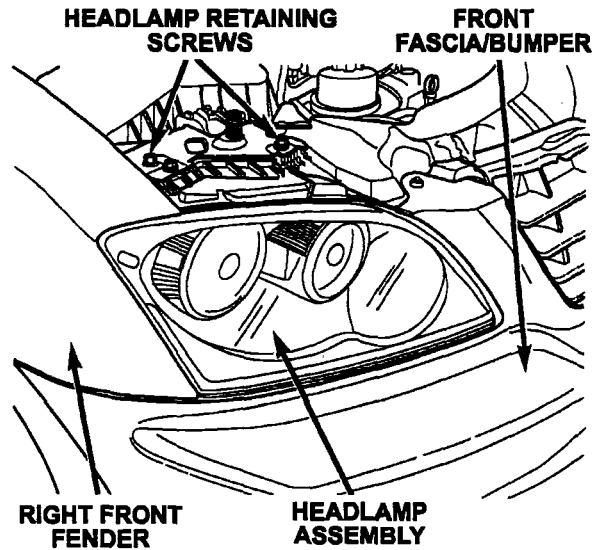

Figure 1 – Right Side Shown
2. Remove the two headlamp retaining screws from the top of the right and left side of the headlamp panel (Figure 1).
21. Install the headlamp assembly retaining screws and tighten to 50 in. lbs. (6 N·m) (Figure 1).